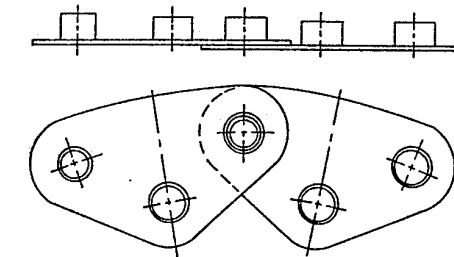
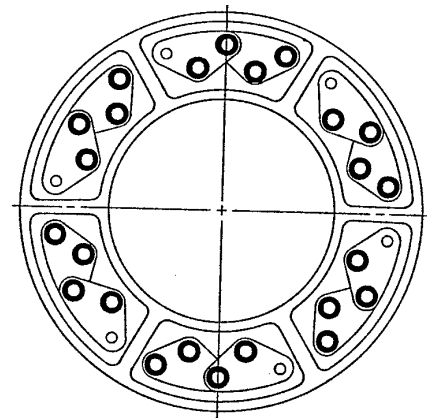

Figure 11
Figure 12
- 4.4.5 Replace the springs (19)(20). The old retainer plates (18) may be reused. Refer to **Figure 11** and **Figure 12** for proper orientation.